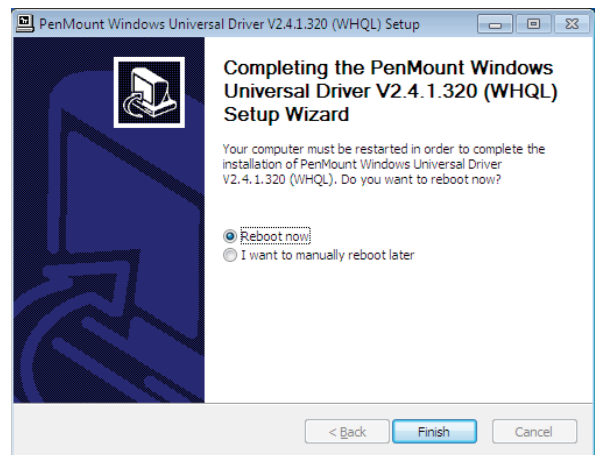

Fig.6
Step 6: If you click “Yes” in step 5, the following window will pop up, indicating the installation is complete. Click “Finish” to exit the window (Fig.6).